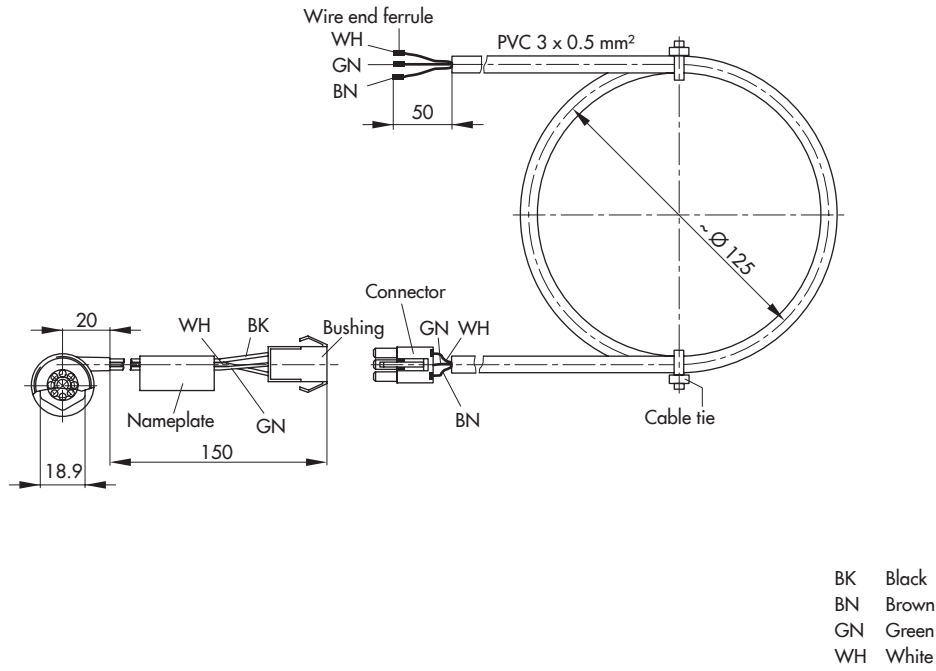

Fig. 9: Electrical connection of TROVIS 5757-3 · Water flow sensor (WSS)
1) Information on connection of water flow sensor (see Fig. 9).